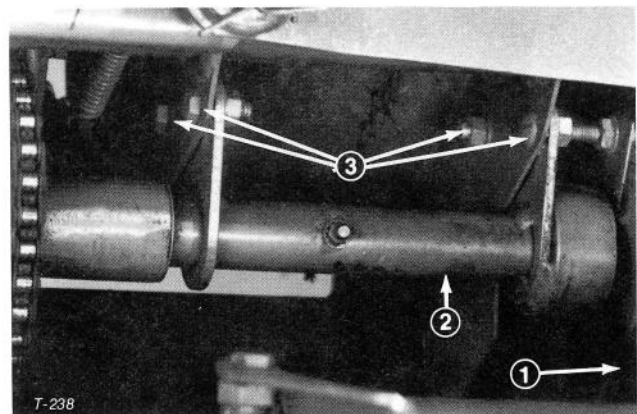

Figure 39
3. Remove chain guard (Fig. 39).
4. Loosen capscrews, locknuts and truss head screw securing traction countershaft to frame (Fig. 39).
6. Make sure chain sprockets are in alignment and tighten fasteners (Fig. 39).
2. Remove the traction belt; refer to Traction Belt Replacement, page 23, items 1-3.
4. Remove differential chain guard from left side of machine (Fig. 39).